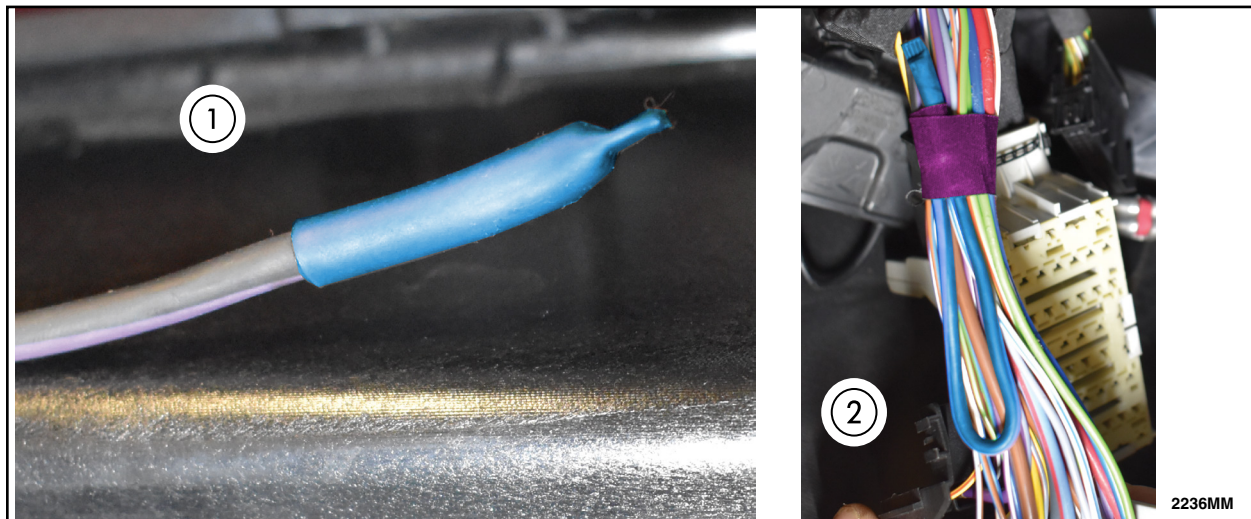

FIGURE 44
51. Add Dual Wall Heat Shrink tubing to cover open end of the black-violet wire. Bend the circuit with heat shrink into the bundle and secure with Coroplast tape. See Figure 44.